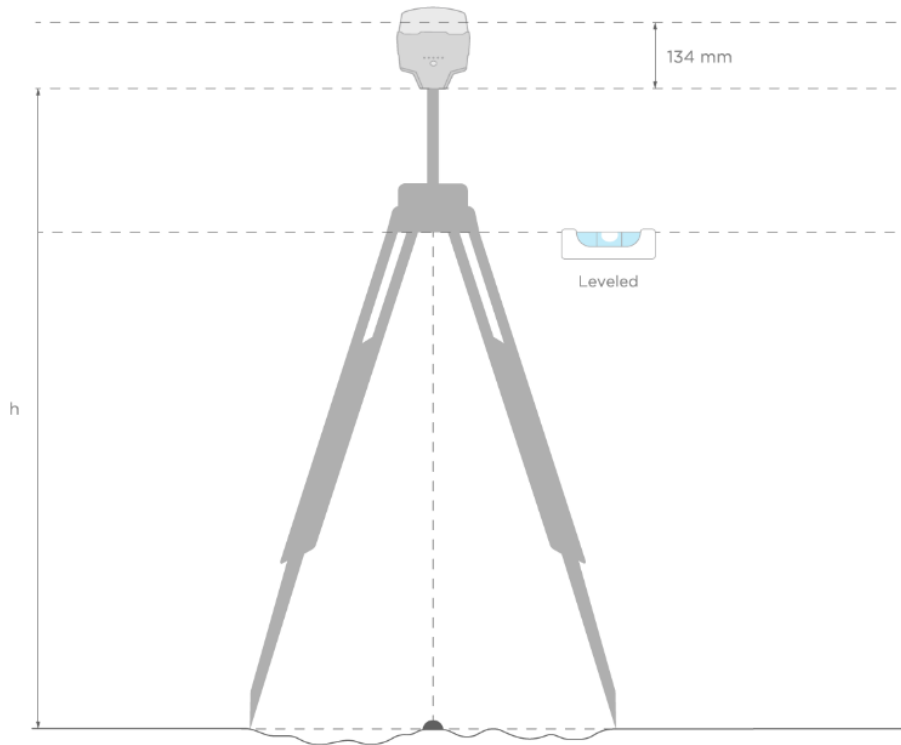

Figure 6
1. Measure the distance between the mark and the bottom of your Reach (h on Figure 6).
**Reach RS2/RS2+ antenna height:** For Reach RS2/RS2+, the antenna height is the distance between the mark and the bottom of the receiver ( $h$  on Figure 6) plus the receiver's height to the antenna reference point (ARP) which is equal to 134 mm and automatically added by Emlid Flow.